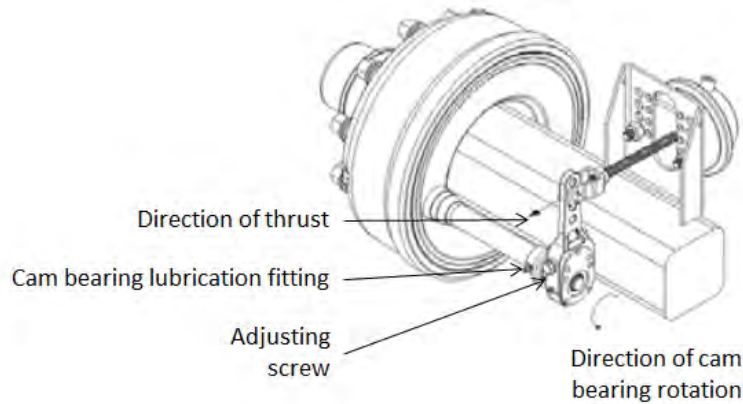

Figure 62 — Adjusting a Brake with a Slack Adjuster
- If the cam bearings have lubrication fittings, lubricate them (see Figure 62). Use a moderate amount to avoid getting any grease on the linings or drums.
If a slack adjuster has been installed, turn the adjusting screw on the slack adjuster to adjust its relative position to the cam bearing (see Figure 62).
**Turn it in the direction that the cam bearing rotates (see Figure 62). To take up the slack, turn the screw so that the cam turns in the same direction.**